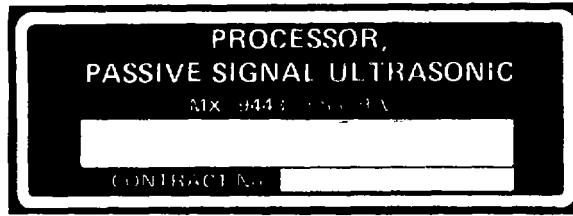
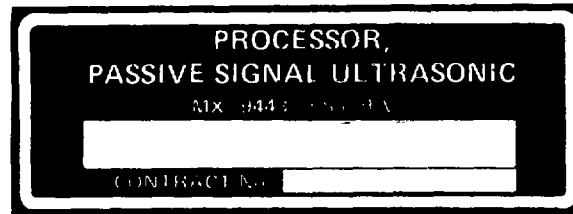

Figure 1-3. Identification Plates, Receiver
Figure 1-4. Identification Plates, Processor
a. Identification Data. Two plates, identification and NSN, are mounted inside each housing. Plates for the Receiver are shown in figure 1-3 and for the Processor in figure 1-4.